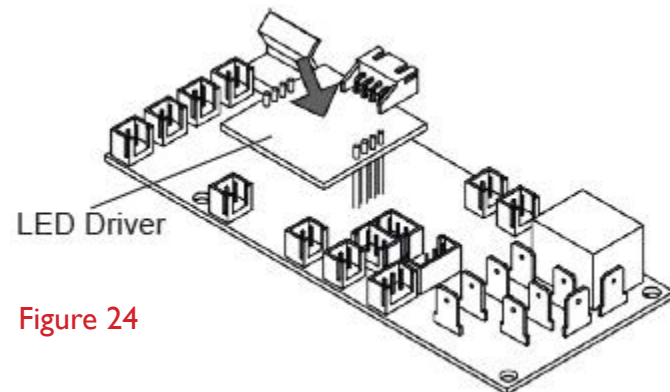

Figure 24
2. Locate and disconnect the old LED driver board (Figure 24).